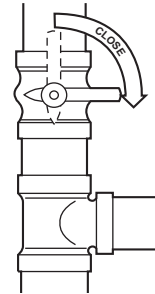

Fig. 8 - Close Valve
Should the gas supply fail to shut off or if overheating occurs, turn off the manual gas valve to the furnace **BEFORE** turning off the electrical supply. (See Fig. 8.)
2. Close the external manual gas valve. (See Fig. 8.)